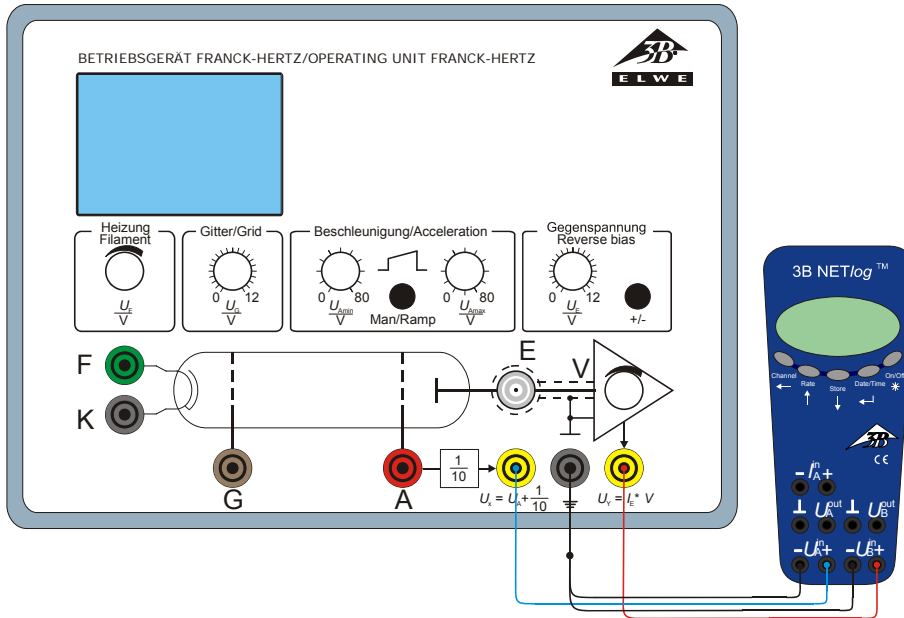

Fig. 6 Connection of 3B NETlog™ to the control unit for the Franck-Hertz experiment
- Connect the 3B NET/og™ unit to the control unit for the Franck-Hertz experiment (see Fig. 6). Connect the U_x output of the control unit to input A of the 3B NET/og™ unit and output U_y to input B.